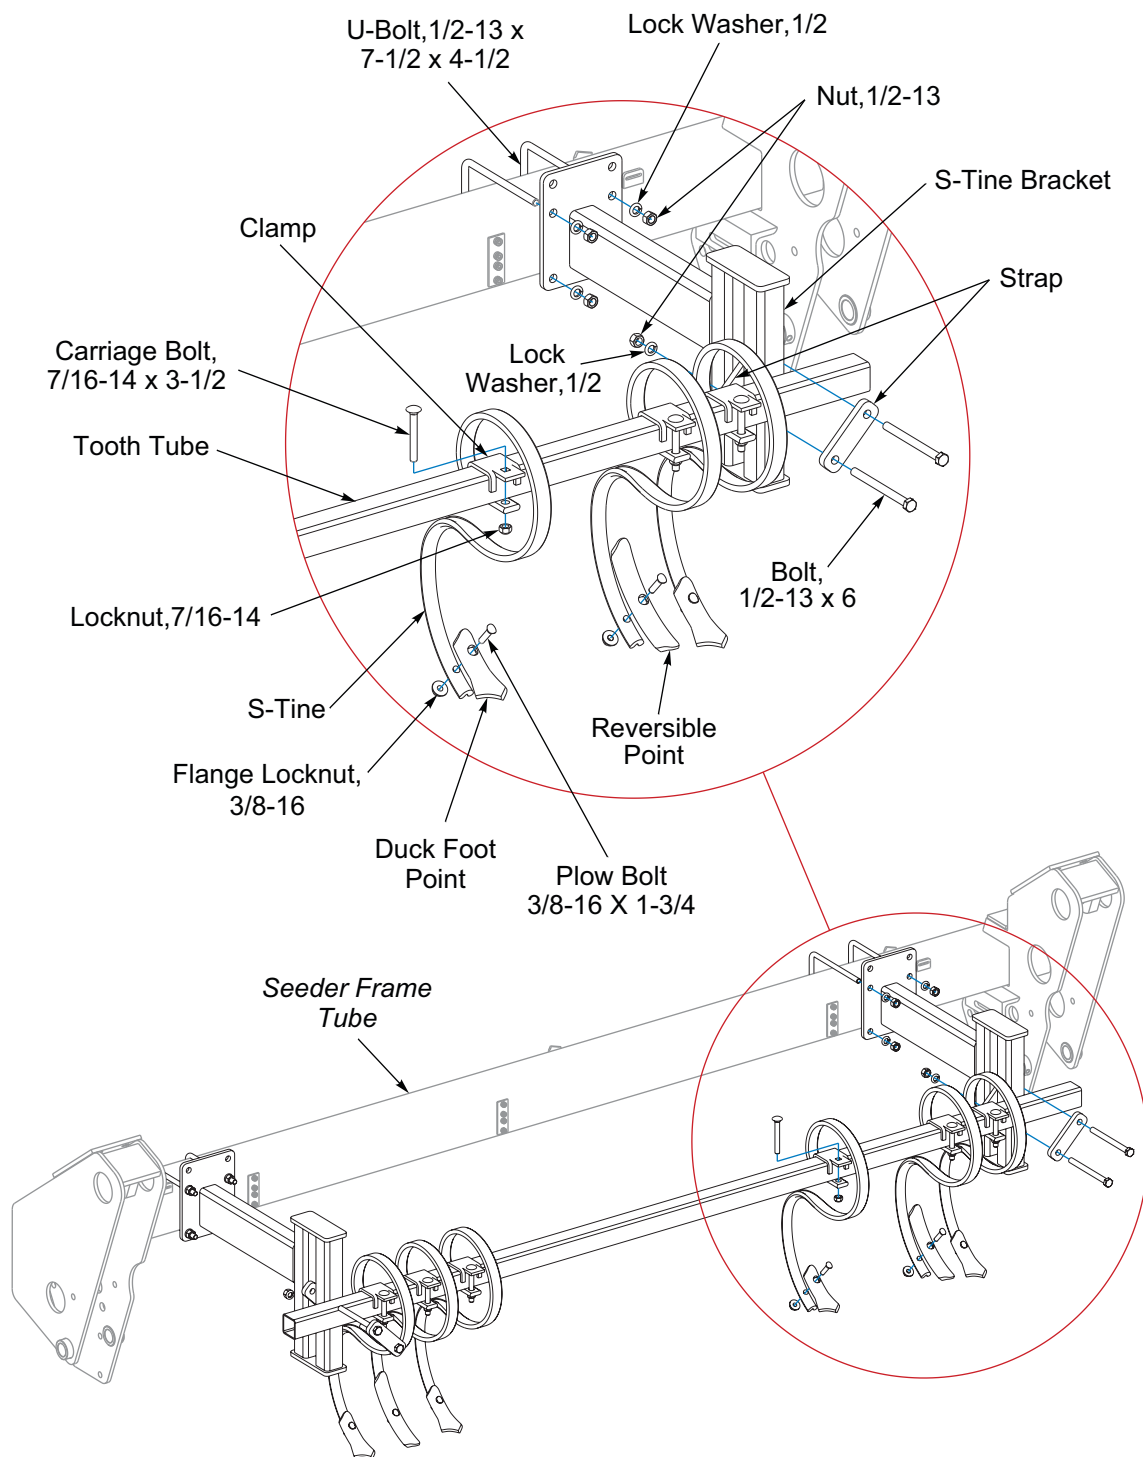
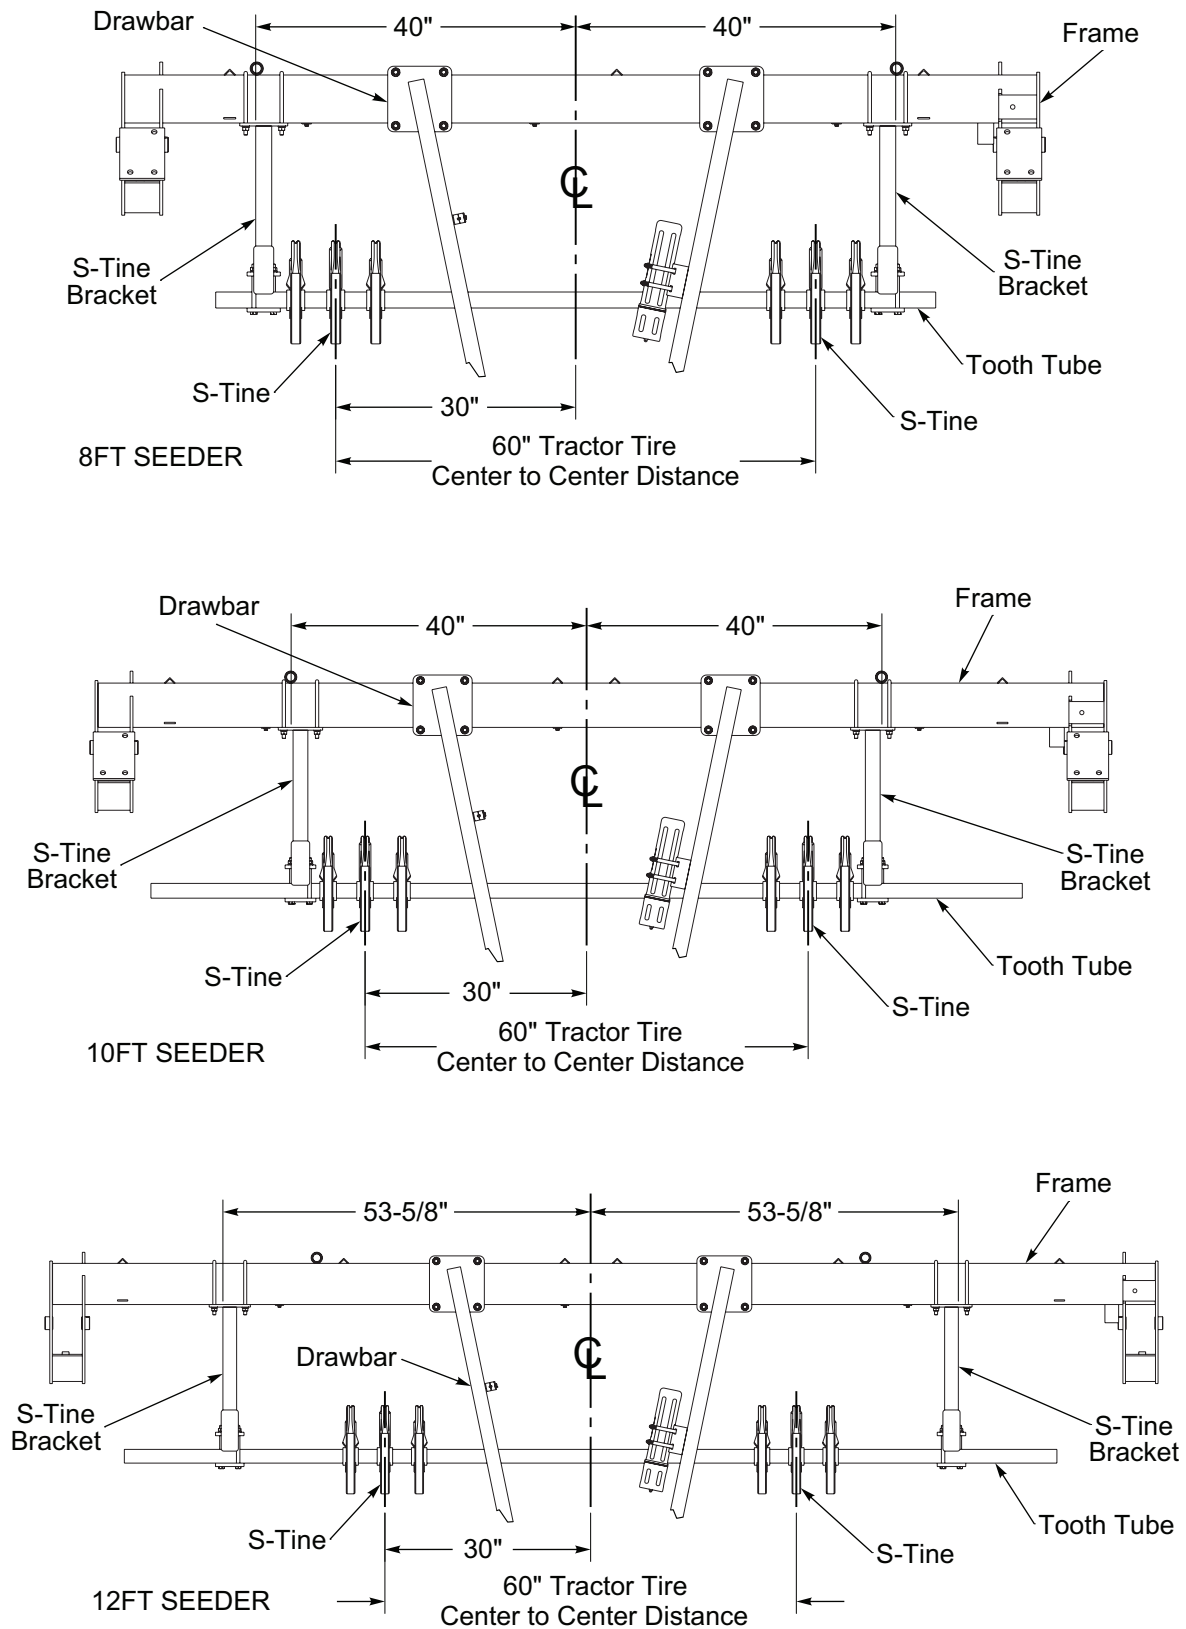

Figure 2-53: S-Tine Track Remover Kit - Optional
Figure 2-54: S-Tine Mounting Dimensions
*S-Tine Brackets and S-Tines should be positioned per application. Use **Figure 2-54** only as a reference.*
1. Center and position the S-Tine Brackets in relationship with the center of the Drawbar or 3-PT Hitch to the front of the Seeder Frame Tube. **See Figure 2-54.** Secure S-Tine Brackets to the Seeder Frame Tube with 1/2-13 x 7-1/2 x 4-1/2 U-Bolts, Lock Washers, and Nuts. **See Figure 2-53.**